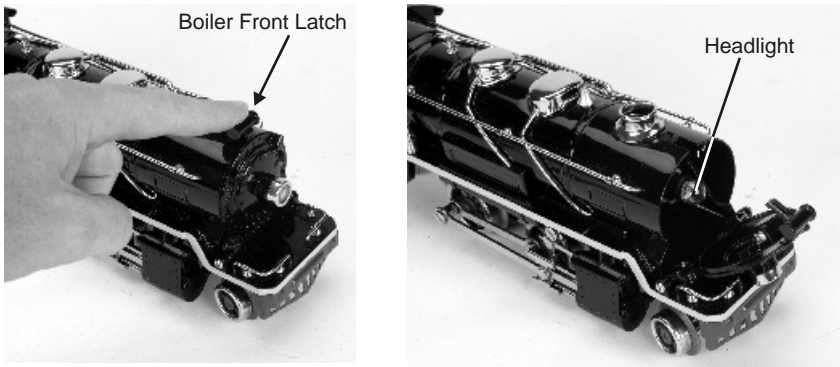

Figure 8
1. To replace the headlight in this model you will need to pull back (release) the Boiler Front Latch and carefully pivot the boiler front forward. (See Figure 8).